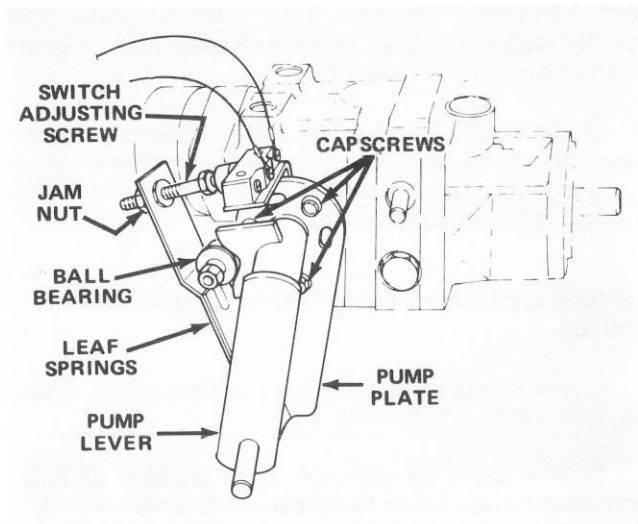

Figure 58
1. Park vehicle on a level surface and turn engine off. Apply the parking brake, tip seat forward and actuate pump lever (Fig. 58) to insure assembly is properly seated and operating freely. Correct any discrepancy.
6. Because the wheel is rotating, the pump plate must be adjusted. But before adjusting the pump plate, move throttle to SLOW. If wheel is rotating forward, loosen capscrews and lightly tap bottom of pump plate counterclockwise (Fig. 58). By contrast, tap pump plate clockwise if wheel is rotating backward (Fig. 58). When wheel stops rotating, tighten capscrews holding pump plate against side of transmission. Verify the adjustment with throttle in SLOW and FAST position.
- A. Ball bearing is loose or worn out (Fig. 58).
- F. Weak or damaged leaf springs (Fig. 58). Replace.
2. Actuate the pump lever (Fig. 58) to insure all parts are operating freely and seated properly.
3. Loosen jam nut. Rotate switch adjusting screw (Fig. 58) until there is a gap between head of screw and switch button.